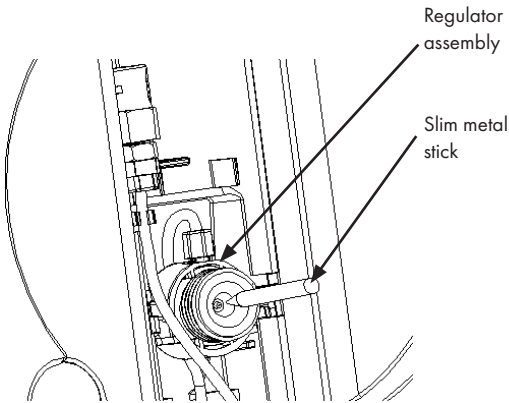

Figure 24
1. Firstly, pick out the seal washer with a tiny metal stick (Show as figure 24), and take out Cartridge pierced probe. Be careful not damage other parts of regulator.